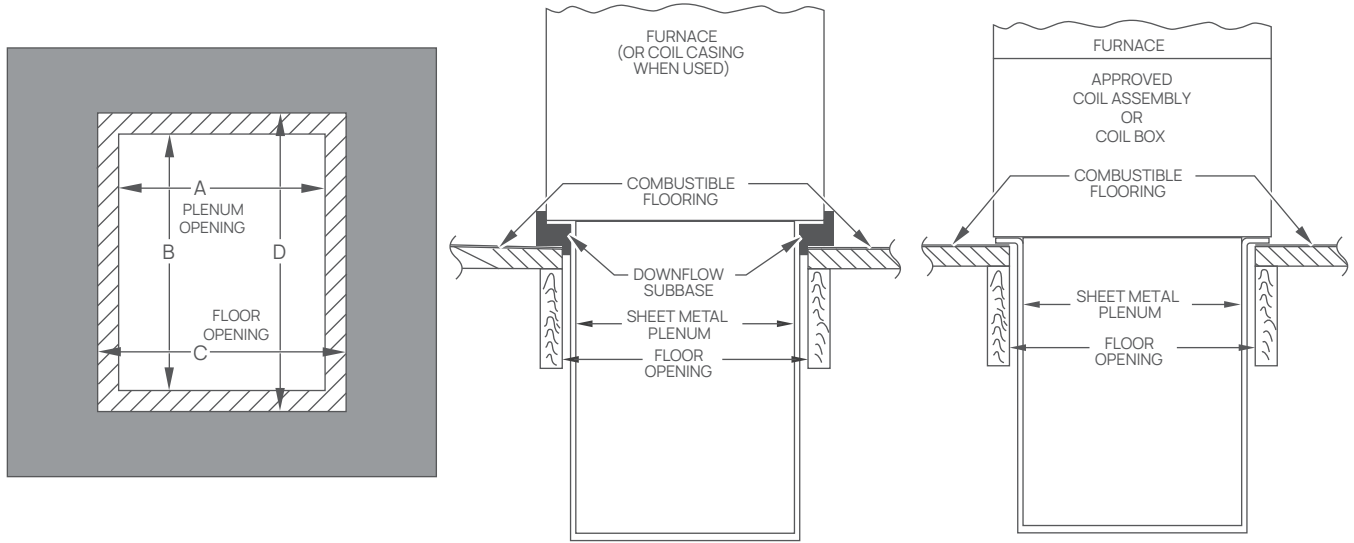

Fig. 15 – Installation on Combustible Flooring
2. Construct hole in floor per Table 2 and Fig. 15.
3. Construct plenum to dimensions specified in Table 2 and Fig. 15.
4. Install special base coil assembly or coil box as shown in Fig. 15